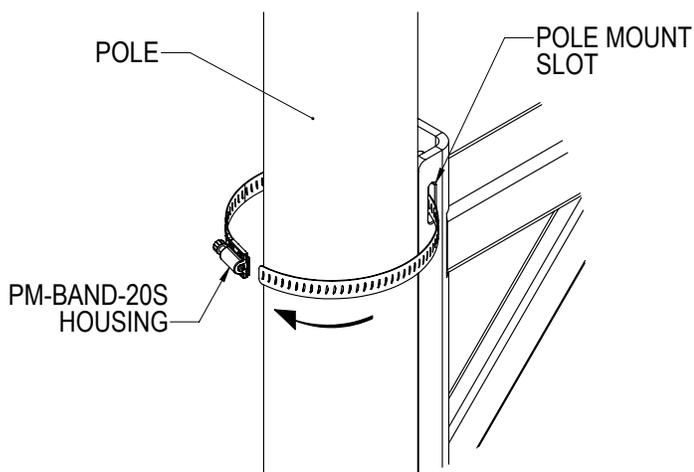

Figure 1
Step 1: Insert the end of the band through the slots of the PM-MOUNT-6DOWN (or PM-MOUNT-6DOWN-G or PM-SAFETY-6DOWN) and out on the other side. Wrap the banding strap snugly around the pole until the end reaches the band's housing (*Figure 1*).